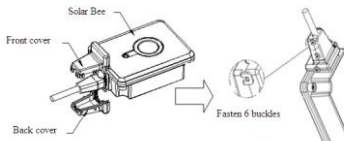

Fig 2-2 Installation of waterproof seal sets
- 2) Fix the accessories (waterproof seal sets) to Solar Bee, as shown in Fig 2-2